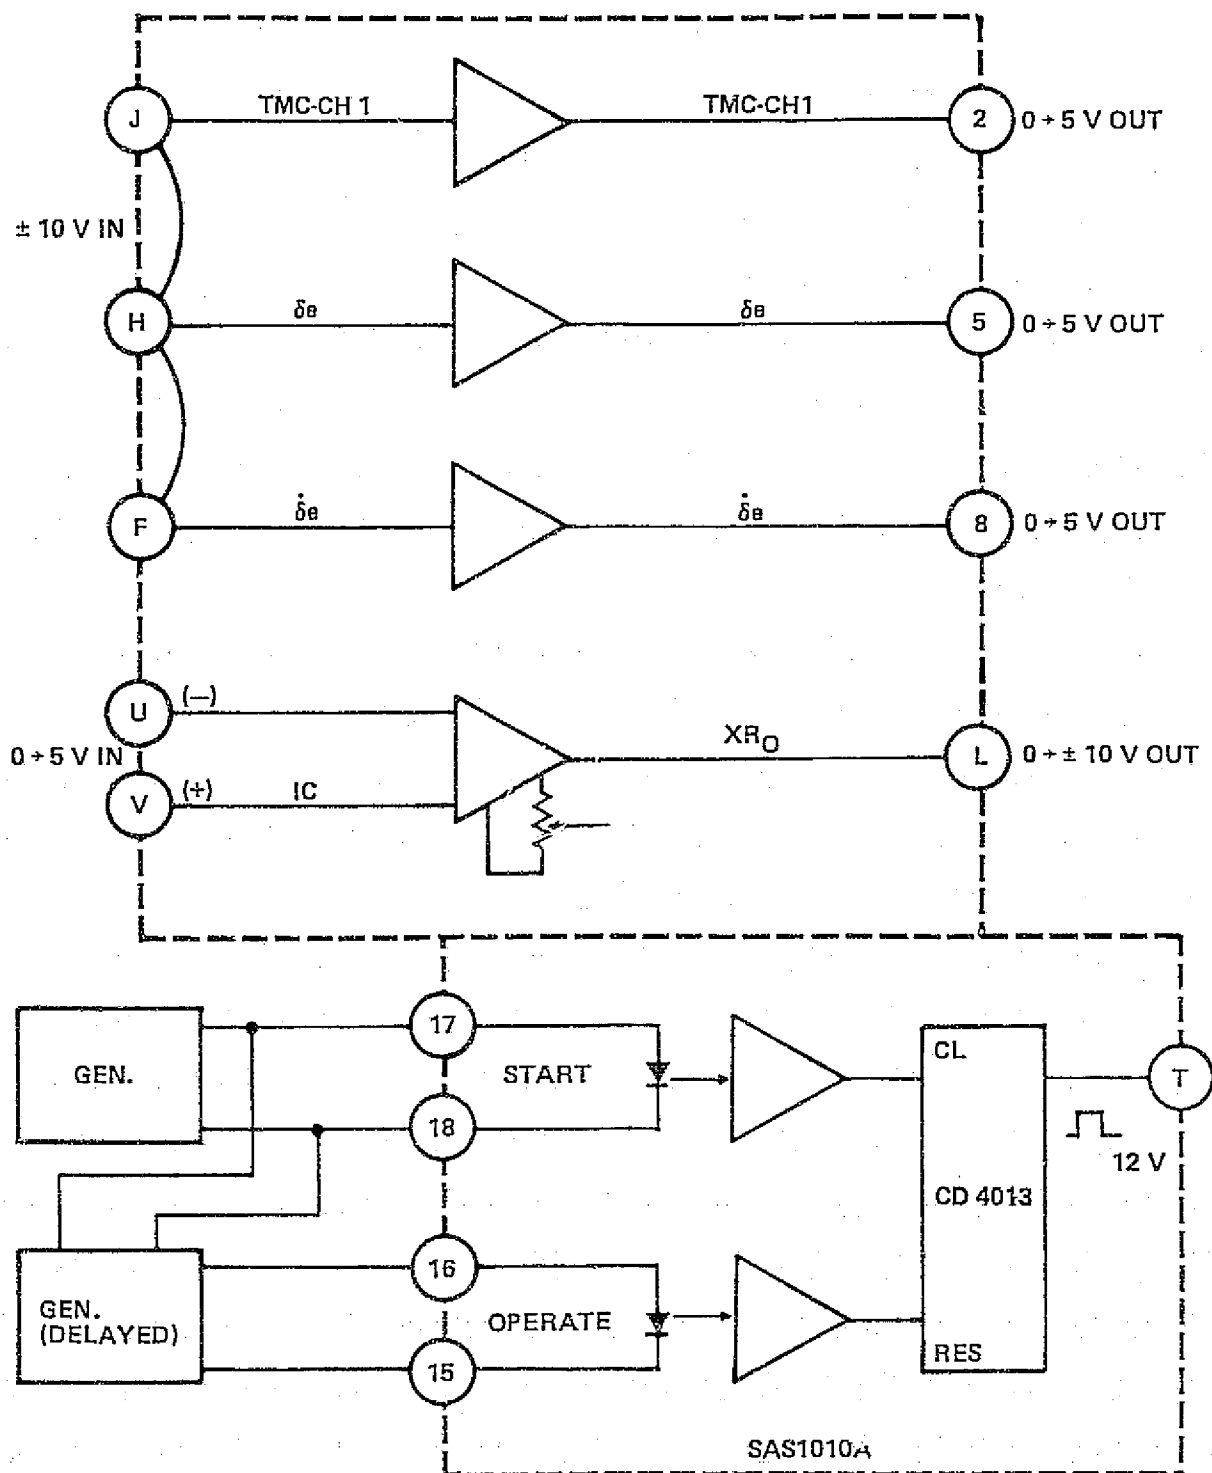

Figure 1. - Test setup schematic.
4. Refer to figure 1 for test configuration. The input to pins 17 and 18 is a transistor-transistor logic (TTL) level and is used to set the "Q" output of U2 to a high level. The input to pins 16 and 15 is delayed and is used to "Reset" the "Q" output to a low level (pin T). A scope is used to monitor the output. The pulse shape should be as follows: